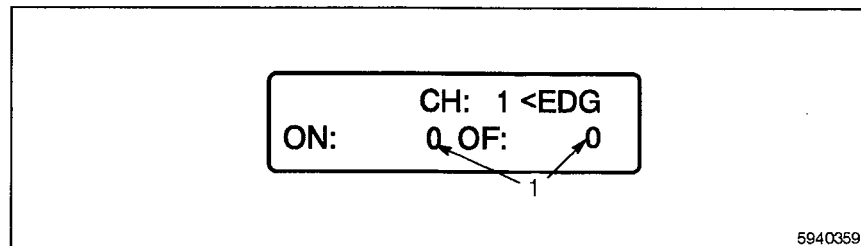

Fig. 4-9 Channel Display
- If a channel contains no durations, the on and off setpoints are 0 (Figure 4-9, number 1).